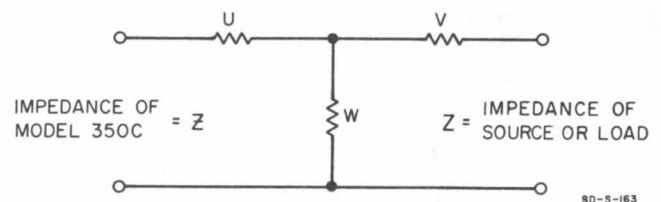
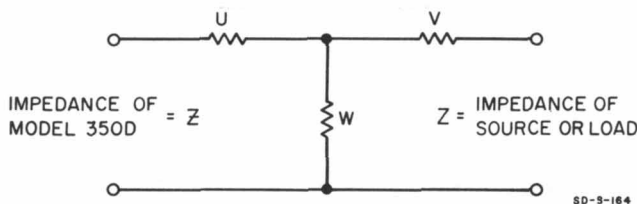

Figure 3-2. Model 350C Matching Network
Figure 3-3. Model 350D Matching Network
b. Except for the condition stated in a., a resistive impedance-matching network should be used. Resistors should be deposited film or carbon type. Also, better accuracy is obtained if the network is enclosed in a shielded container and connecting leads are kept short. Data on impedance-matching networks for the Model 350C are given in figure 3-2 and table 3-2; data for the Model 350D are given in figure 3-3 and table 3-3. The amount of insertion loss is included in tables 3-2 and 3-3.
c. Networks may be used which provide the Model 350C/D and its load with an impedance match. Network data and connections are given in figures 3-2 and 3-3 and tables 3-2 and 3-3. Figure 3-1C shows a network for matching a 200-ohm load and the 600-ohm Model 350D; figure 3-1D shows a network for matching a 500-ohm load and the 600-ohm Model 350D.